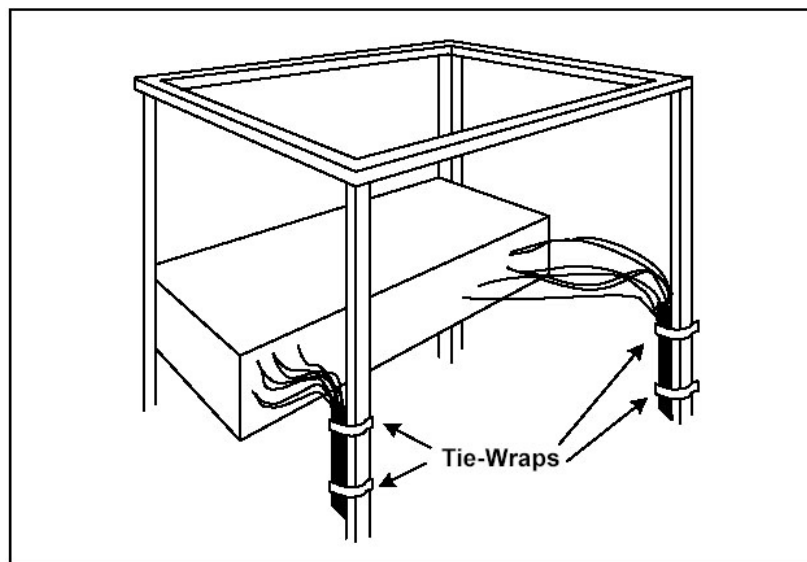

Figure 4. Cabling
2. Provide proper support for each cable during the cabling process. The use of tie-wraps is recommended, as in Figure 4.